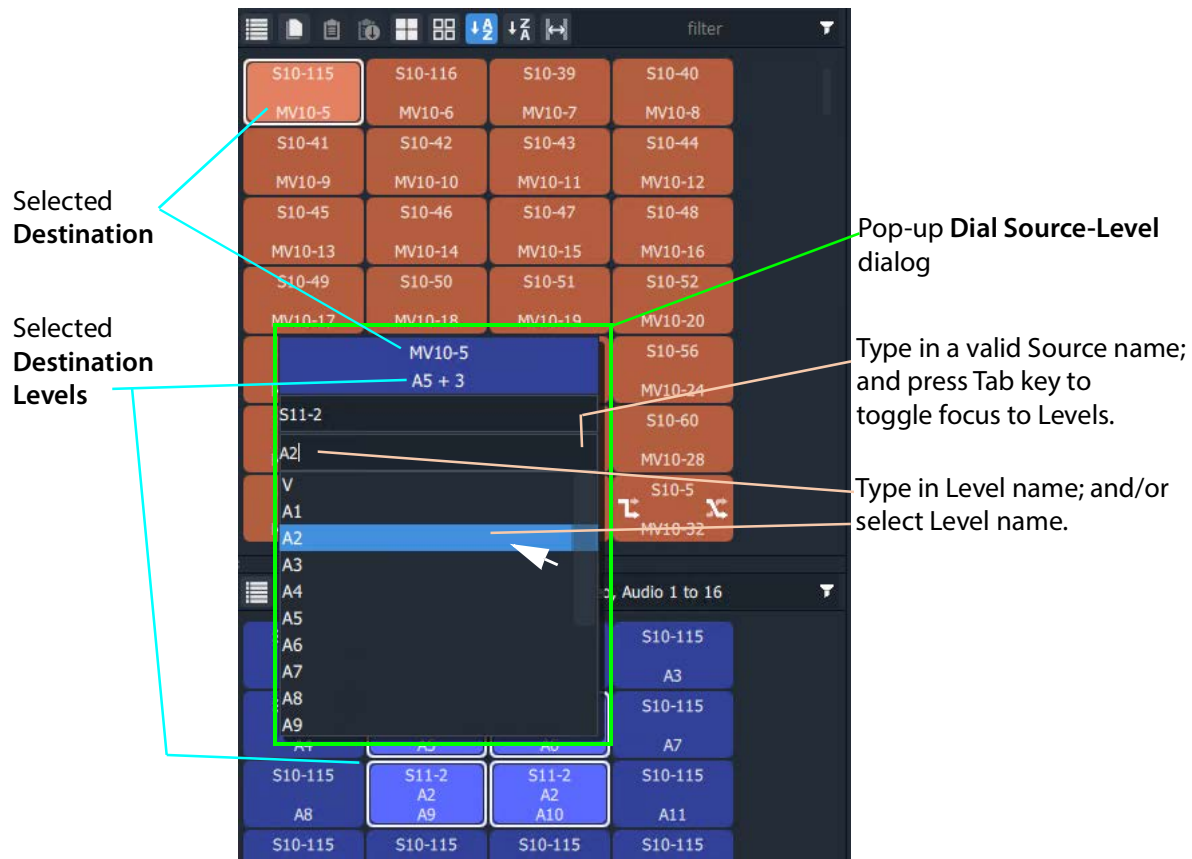

Fig. 12-24: Dial Source-Level Dialog
A default **Dial Source-Level** dialog pops up and shows the currently-routed Source name and Level. (See Figure 12-24.)
- 6 When the required (and valid) Source name is in the upper text box of the dialog, press the Tab key. (See Figure 12-24.)